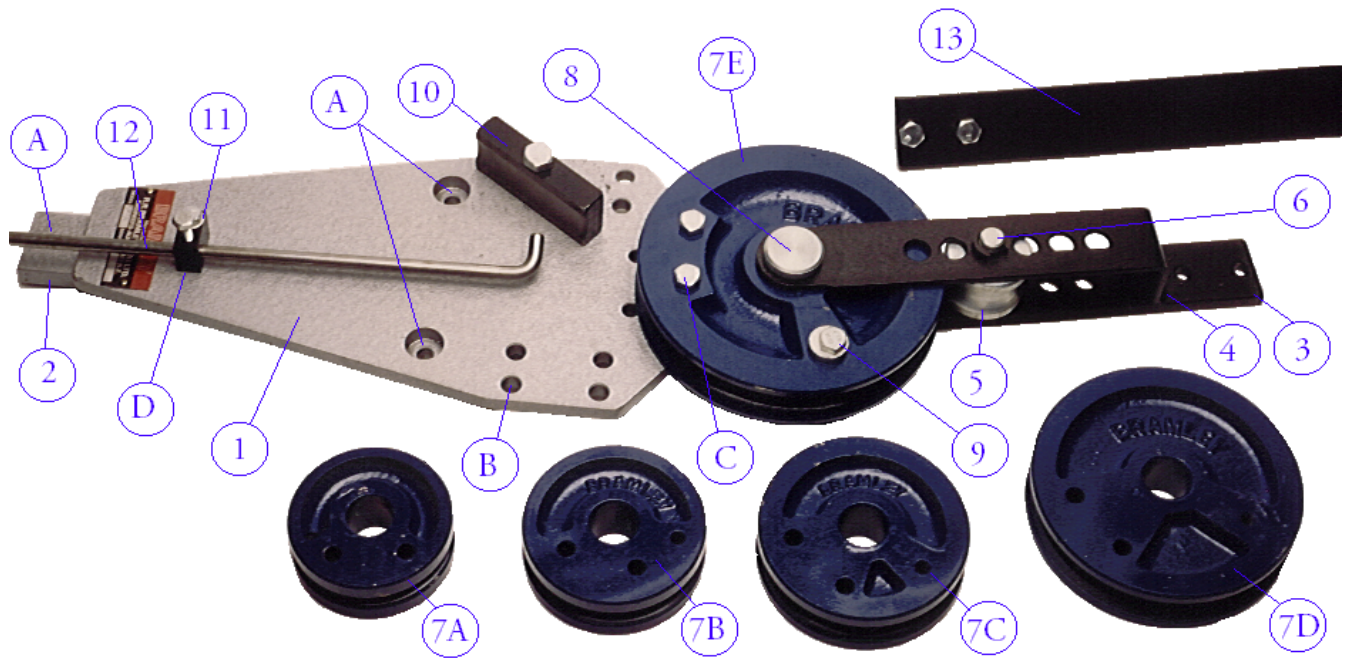

FIGURE 1
The Holes marked (B) in Figure 1 are used to position the Guide Block (64/10). This Guide Block can be positioned anywhere over the eight holes to achieve the desired type of bend or radius. By moving the Guide Block from one side to the other, the Bender may be operated in either a clockwise or counter clockwise direction.
Thank you for purchasing the Bramley Manually Operated Tube Bending Machine. This Machine has been designed to be as versatile as possible to allow a large variety of tube and steel to be bent. The Machine above is the Model "A" Bender and is shown, as illustrated (Fig 1), with the 1/2", 5/8", 3/4", 7/8" and 1" Formers. Also available are Formers that will allow other sizes of material to be bent. These are listed in Table A.
When order spare parts please refer to parts list (Table B). The parts are numbered on Figure 1 to allow easy identification of parts required.